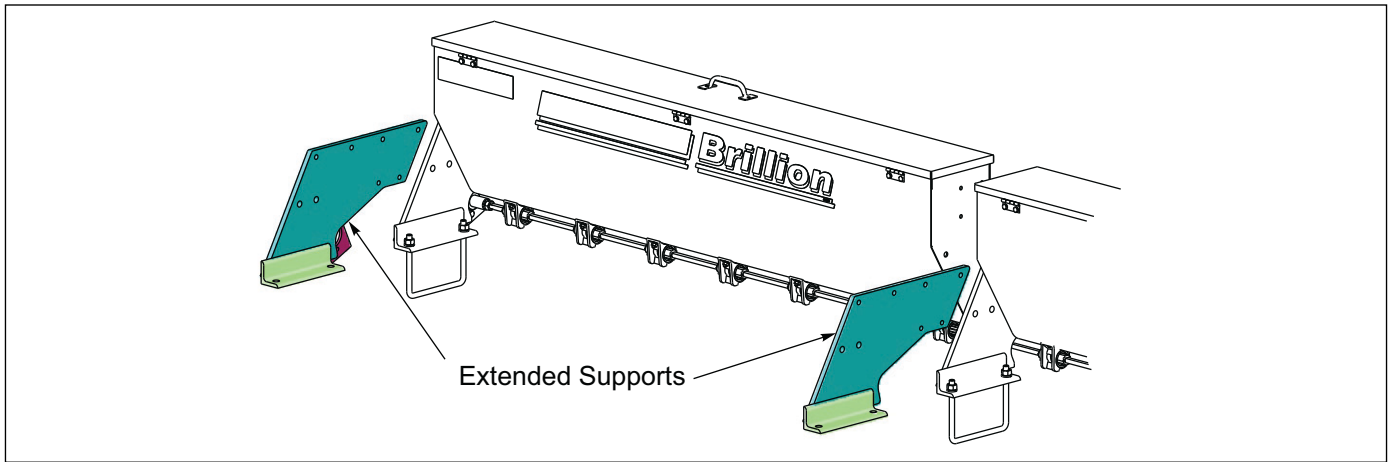

Figure 2-32: Extended Supports
3. Loosen U-Bolts which fasten front seed box to frame at center and right end. Replace center and right end support brackets with extended supports which also have holes for mounting a 2nd box (part 9K853 and 9K854). **See Figure 2-32.**